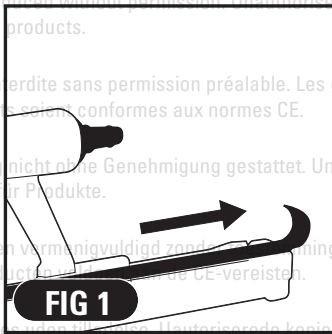

FIG 1
1. Disengage the latch and pull back magazine side. (Fig. 1)